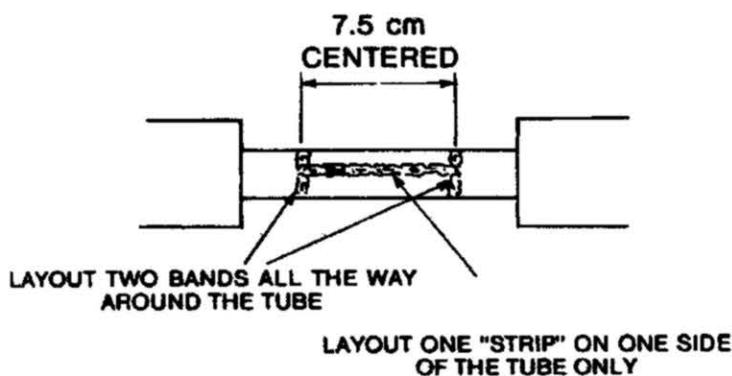

Fig. 7
**D** Spread a thin coat of contact cement on the areas shown on the Ion Pump assembly in Fig. 7.